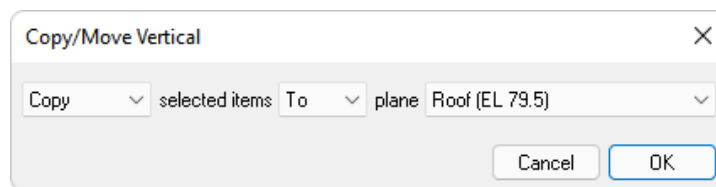

FIGURE 6-2
- Go to *Modify->Copy/Move* and click on the **Copy/Move Vertical**  icon. This will open the *Copy - Move* window as shown in **FIGURE 6-2**.